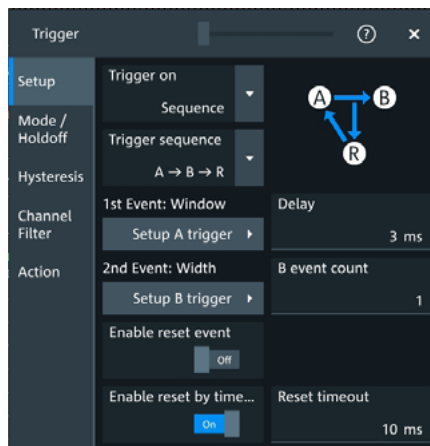

Figure 2: Trigger sequence window
- Activate a trigger sequence and define an appropriate reset timeout (see Figure 2)